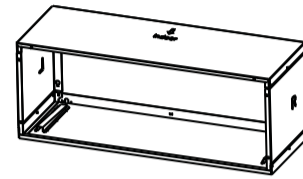

Fig.4
- Turn the SLEEVE as shown below. (See Fig.4)